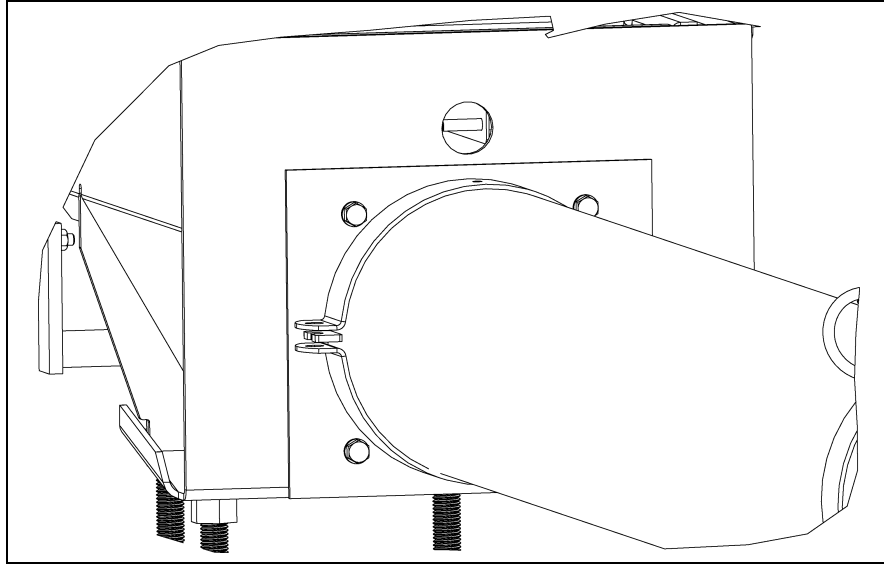
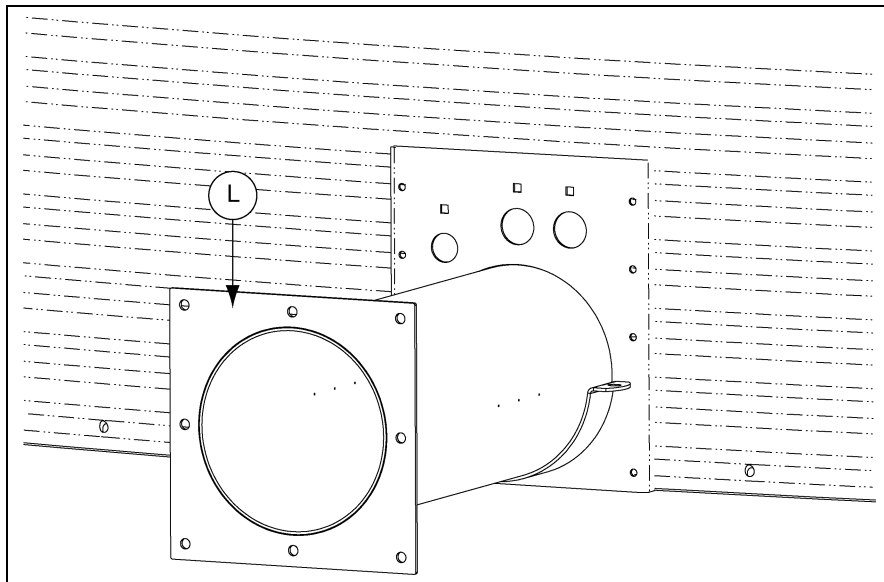

Figure 5J
Figure 5K
11. Connect the discharge auger tube to the Grain Flow sump. Be sure that the locator tabs welded on the auger tube are in position between the clamp bands. At this time, check the square flange welded onto the opposite end of the auger tube making sure it is level. Finish by tightening the two (2)  $\frac{3}{8}$ " x 1- $\frac{1}{4}$ " bolts and nuts holding the two (2) clamps together. The square flange on the auger tube must be level to ensure the power unit or vertical augers, if utilized, will be level and plumb. (See Figure 5J and Figure 5K.)